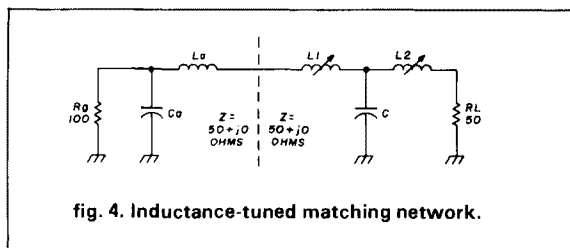
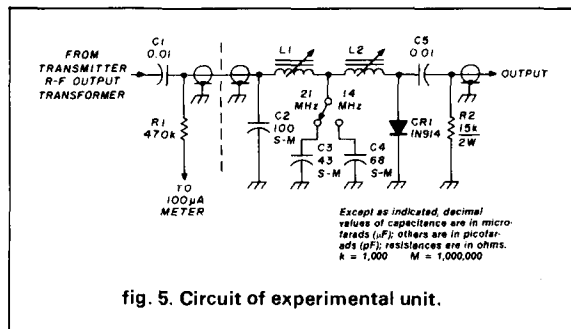

fig. 4. Inductance-tuned matching network.
fig. 5. Circuit of experimental unit.
The new circuit could be split and described as a number of different combinations. After examining published tables in reference 10, I chose to look at it as an approximation of **fig. 4**, an L network of  $Q = 2$ , transforming 100 ohms to a 50-ohm resistive load — the load being a symmetrical lowpass T network of  $Q = 6$  with 50 ohms resistive output and input. **Table 2** gives circuit parameters for 14 and 21 MHz.
**Fig. 5** shows practical adaptation of **fig. 4**. The unit was connected to the output of a simple rf ferrite toroid transformer in the output circuit of a 2-3 watt transmitter for 14 and 21 MHz. For capacitor C2 I compromised on a single 100-pF silvered-mica unit. For tuning I used a 100-microampere meter in the transmitter to measure relative output. The 1N914 diode, CR1, provides a measure of peak rf output across itself. It charges C1 and C5. The discharge of C1 through R1 (470k) provides the current to give a relative reading on the meter. Resistor R2 is used as a means of draining atmospheric electrical charges off the antenna.
table 2. Computed values for circuit of fig. 4, approximated in final unit (data from reference 10).  $R_g$  is 100 ohms resistive;  $R_L$  is 50 ohms resistive.